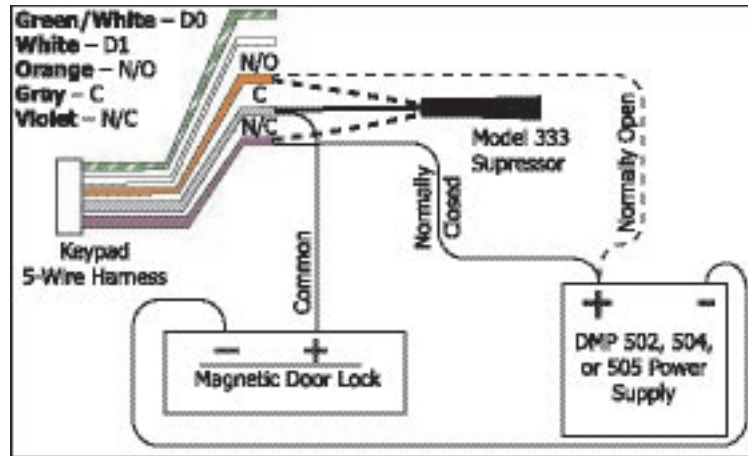

Figure 3: 7073 5-wire Harness and Suppressor Installation
One Model 333 Suppressor is included with the 7073 keypad. Refer to Figure 3 and install the suppressor across the 5-wire output/reader harness Common (C) and Normally Open (N/O) or Normally Closed (N/C).